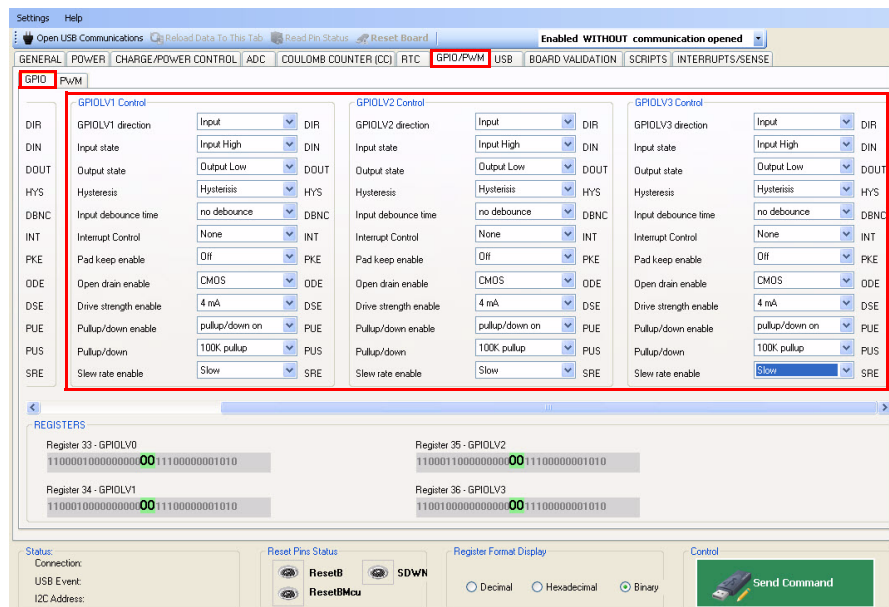

Figure 31. GPIO Tab Configuration Window
- Clicking the **GPIO/PWM** tab in the main window displays the **GPIO** sub-tab as shown in Figure 31.